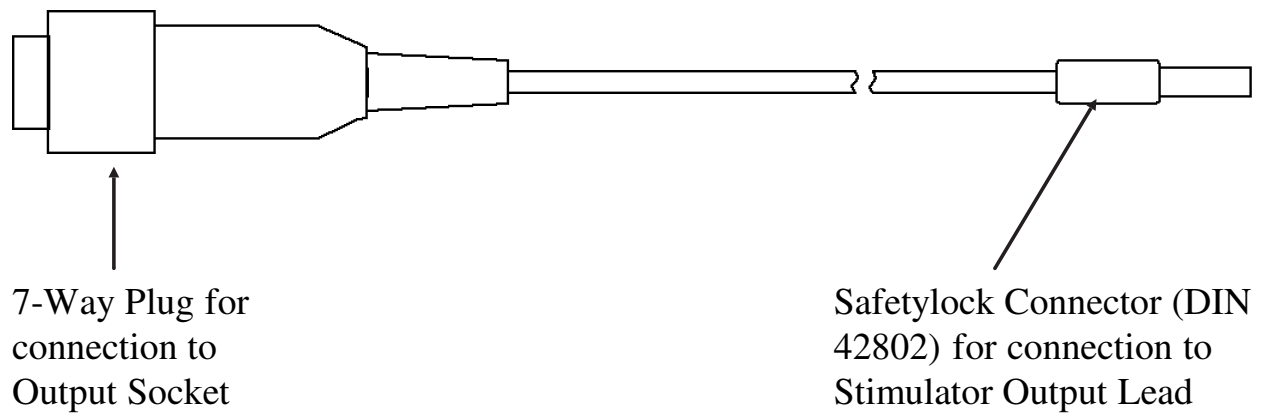

Figure 8 - Combination Therapy Lead
Figure 8 shows the combination therapy lead. When using combination therapy, plug the large (5 cm²) transducer into one output socket on the Ultrasound module and the 7-way plug of the combination therapy lead into the other output socket. Connect the safetylock connector of the combination therapy lead into the required socket of the stimulator 2-way or 4-way electrode lead. Note that combination therapy using the small (0.5 cm²) ultrasound transducer is not recommended due to the small contact area and hence possible high stimulation current density.
23. A special lead is provided for use of the Medi-Link Ultrasound Module in conjunction with a stimulator for combination therapy (figure 8). When using combination therapy, plug the large (5 cm²) transducer into one output socket on the Ultrasound module and the 7-way plug of the combination therapy lead into the other output socket. Connect the safetylock connector of the combination therapy lead into the required socket of the stimulator 2-way or 4-way electrode lead. Note that combination therapy using the small (0.5 cm²) ultrasound transducer is not recommended due to the small contact area and hence possible high stimulation current density.